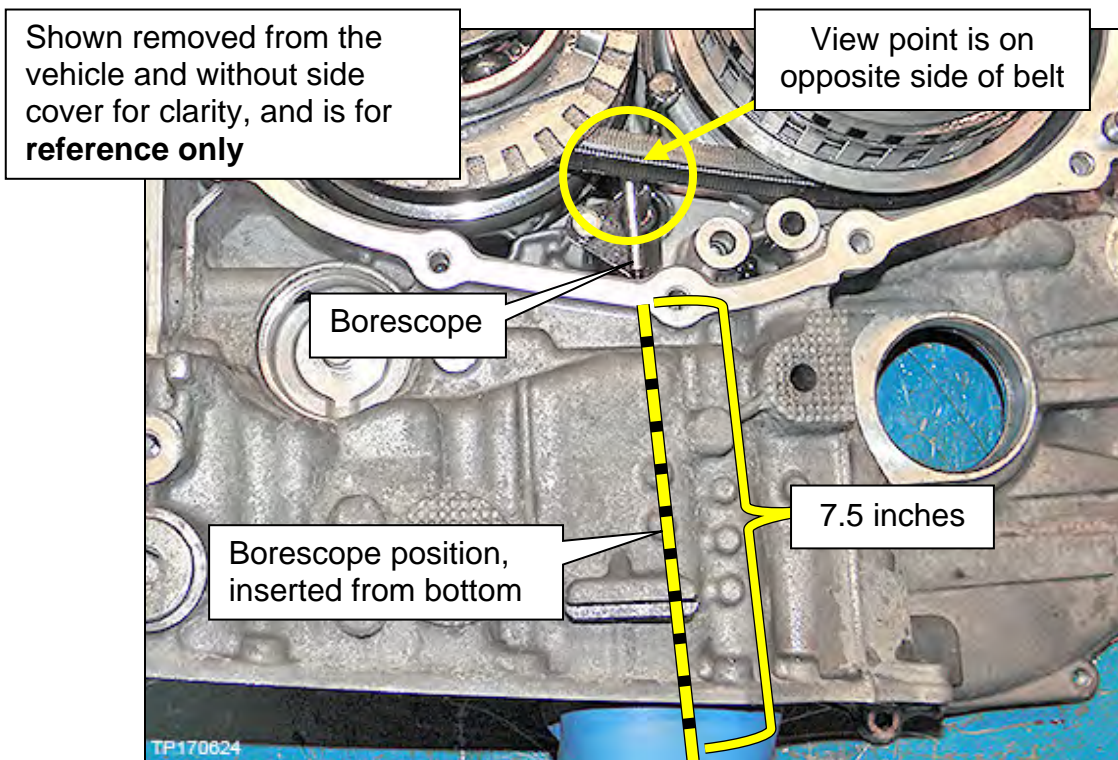

Figure 6C
- II. Insert the lens approximately 7.5 inches from the CVT oil pan gasket surface as shown in Figure 6C on page 19.